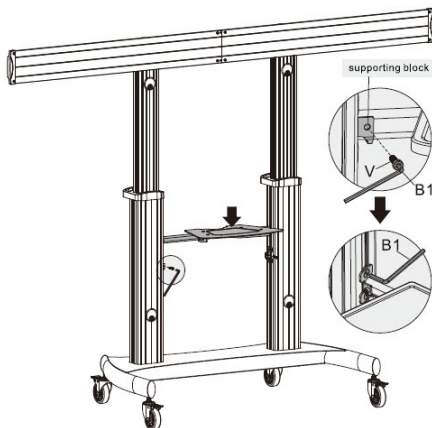

Figure 10
1. Lower the **Media Shelf (K) Assembly** from above into the **Supporting Blocks**, located on the insides of the **Columns (E+F)**. Align the holes in the **Support Bar (O)** with the holes in the **Supporting Blocks**. (Figure 10)
2. Insert one **M6 x 25 mm Hex Head Screw (V)** through the hole in the **Supporting Block** on the **Left Column (E)** and into the **Support Bar (O)**.
3. Tighten the **M6 x 25 mm Hex Head Screw (V)**, using the **Hex Key (B1)**.
4. Repeat steps 2-3 for the **Right Column (F)**.
5. Determine the desired mounting height for the **Media Shelf (K) Assembly**.
6. Hold the **Media Shelf (K) Assembly** and loosen the two **M6 x 25 mm Hex Head Screws (V)** that secure the **Support Block** to the **Left Column (E)**, using the **Hex Key (B1)**.
***Note:** Continue to support the weight of the **Media Shelf (K) Assembly** until all of the **M6 x 25 mm Hex Head Screws (V)** have been tightened.*
7. Repeat step 6 for the **Support Block** in the **Right Column (F)**.
8. Slide the **Media Shelf (K) Assembly** up or down to the desired height.